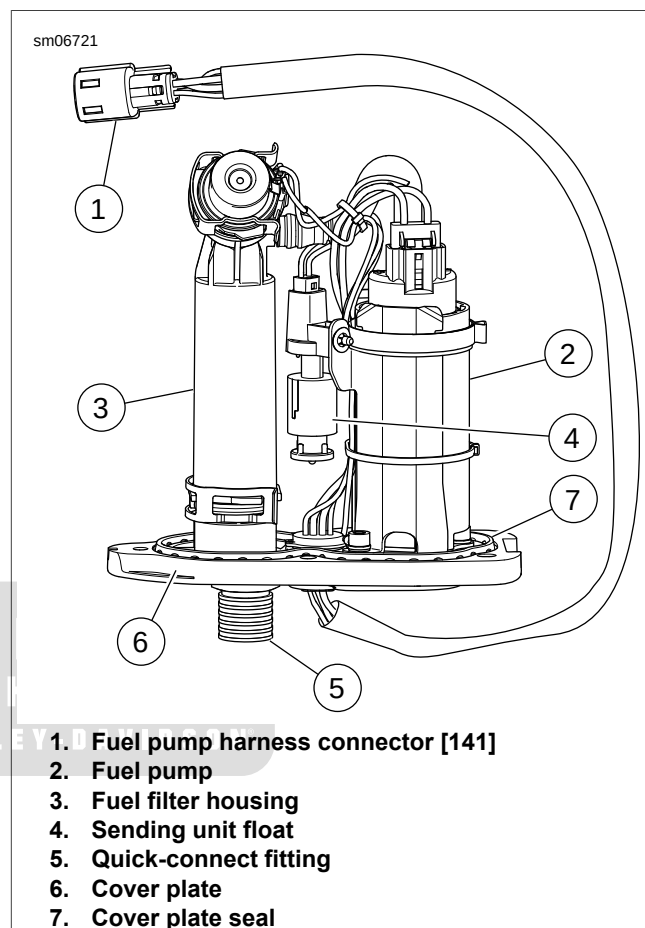

Figure 4-74. Fuel Pump Module
3. See Figure 4-74. Unplug fuel pump harness connector [141] (1), located forward of fuse/relay block on left side of vehicle.
8. See Figure 4-74. Remove and discard cover plate seal (7).